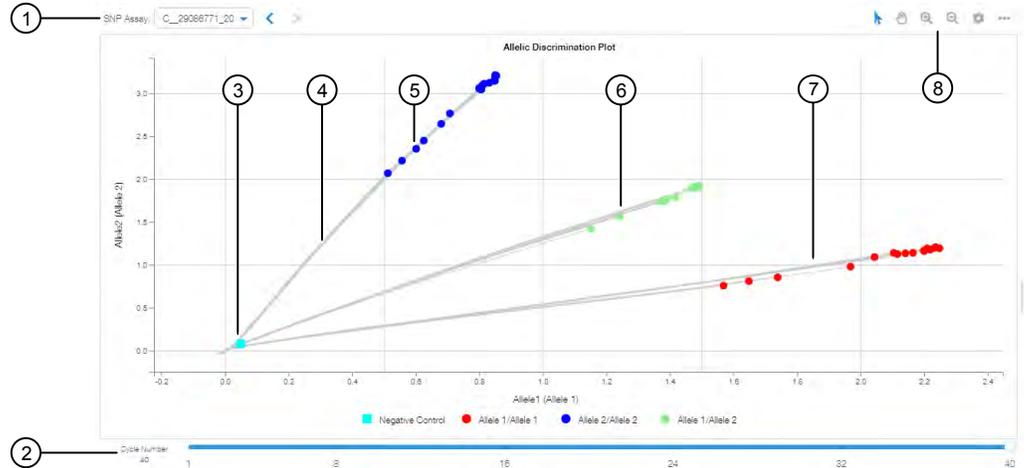

Figure 1 Allelic Discrimination Plot
1. In the **Genotyping** tab, in the upper-left corner of the **Allelic Discrimination Plot** pane, select an assay from the **Assays** list (see Figure 1 on page 15).
- Visually evaluate clusters for the three possible genotypes (see Figure 1 on page 15).
Real Time Data ^[2]	The normalized reporter data (Rn) from the selected cycle of the cycling stage is used to determine calls. Analysis is not restricted to the last cycle. Adjust the analysis cycle using the Cycle Slider in the Allelic Discrimination Plot pane (see Figure 1 on page 15).